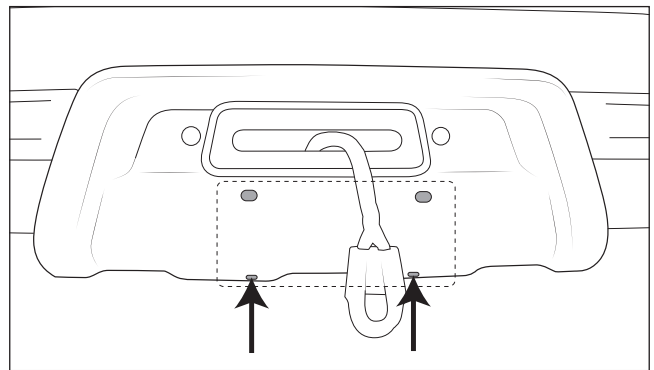

Figure 22B
- B. Follow drilling template AEV30343AB to mount license plate curved under fairlead (fig. 22B).